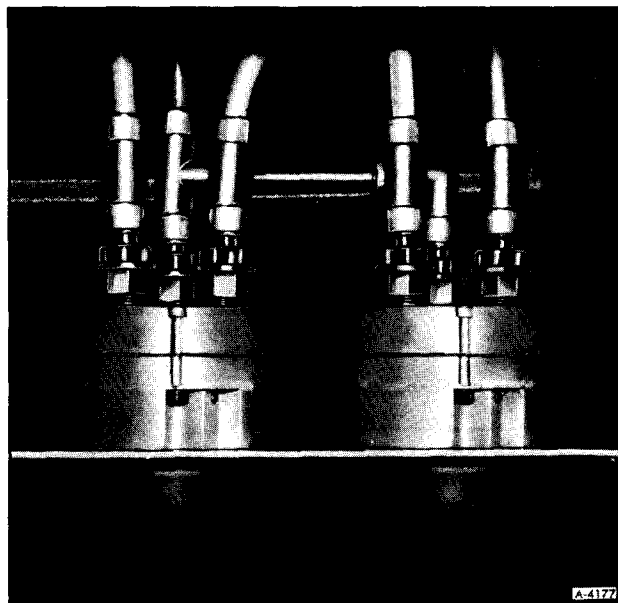

Figure 30—Power Level Valves and Fittings
5. Disconnect three fittings from the back of each valve as shown in Figure 30 and remove valves.